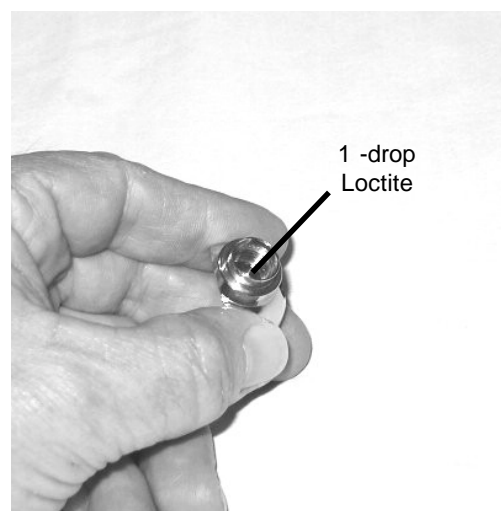

Fig. 4
**△ NOTE:** If the NUT RETAINER (2) was removed, perform steps 1 - 3, otherwise proceed directly to step 4.
1. Lubricate and install the NUT RETAINER OUTER O-RING (1) and INNER O-RING (3) on the NUT RETAINER (2).
2. Using a syringe, carefully put one drop of Loctite 243 on the threads inside the BALL SWIVEL CAP (8) (Fig. 4).
**⚠ CAUTION:** Place the drop on the threads at a sufficient depth (approximately 3 - 6 threads into the opening) to avoid contact with the NUT RETAINER INNER O-RING (3) when the NUT RETAINER (2) is installed.
3. Place the NUT RETAINER WASHER (4) on the NUT RETAINER (2) positioned at the top of the threads just below the NUT RETAINER INNER O-RING.